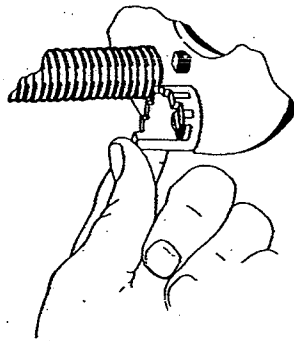

Figure 6
It is often desirable to make several progressively deeper cuts instead of one heavy cut and for this purpose, the revolving depth stop (F) has eight flats. Once the desired final depth has been set on the lowest turret setting with the depth rod (C), it is possible to make progressively deeper cuts by starting with a higher flat on the turret, and rotating to progressively lower stops as desired until the final depth (lowest step or flat) is reached. See Figure 6.
Templet guides are used with a number of special BOSCH accessories, such as hinge templets and dovetail fixtures which are listed in your BOSCH catalog. In addition, special templets are easily prepared for cutting repeated patterns, special designs, inlays, and other applications. A templet pattern may be made of plywood, hardboard, metal or even plastic, and the design can be cut with a router, jigsaw, or other suitable cutting tool. Remember that the pattern will have to be made to compensate for the distance between the router bit and the templet guide, as the final workpiece will differ in size from the templet pattern by that amount, due to the cutter position (See Figure 6). Whenever you are cutting completely around a workpiece, it is advisable to cut across the grain first, so that if a corner should fracture, it can be smoothed out by the bit cutting with the grain on the second pass.